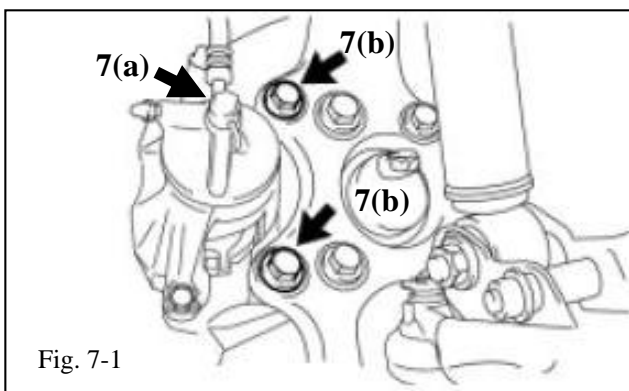

Fig. 7-1
- (a) Loosen and then remove the union bolt from the OE brake caliper that secures the flexible hose to the caliper. Remove and discard the aluminum gasket from the end of the flexible hose (Fig. 7-1).
- (b) Remove the 2 bolts and disconnect the brake caliper Assembly (Fig. 7-1). Retain these bolts, but discard the caliper.